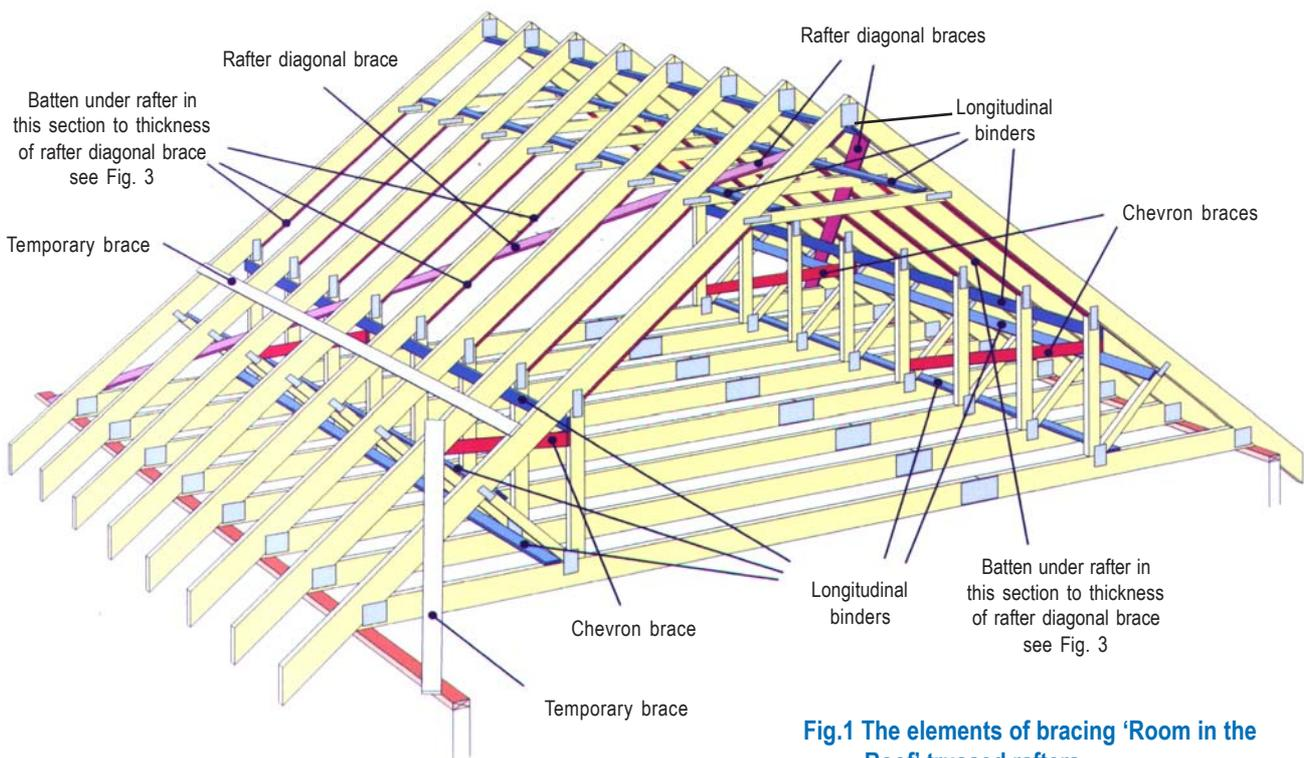

Fig.1 The elements of bracing 'Room in the Roof' trussed rafters
- Longitudinal bracing (see Figs. 1,2 & 6) is located at all node points (including the apex but excluding support points).
- Chevron bracing (see Figs 1 & 7) should be included for spans over 8 m.